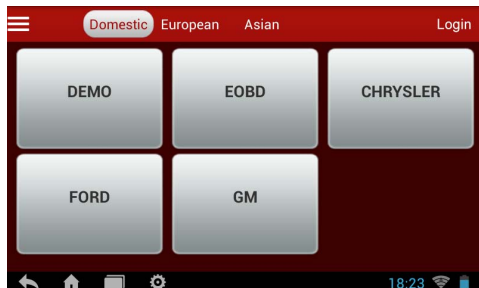

Fig. 5-3
1. Tap the CRP229 icon on the HOME screen to enter the main function menu of diagnosis software, as indicated in Fig. 5-3.